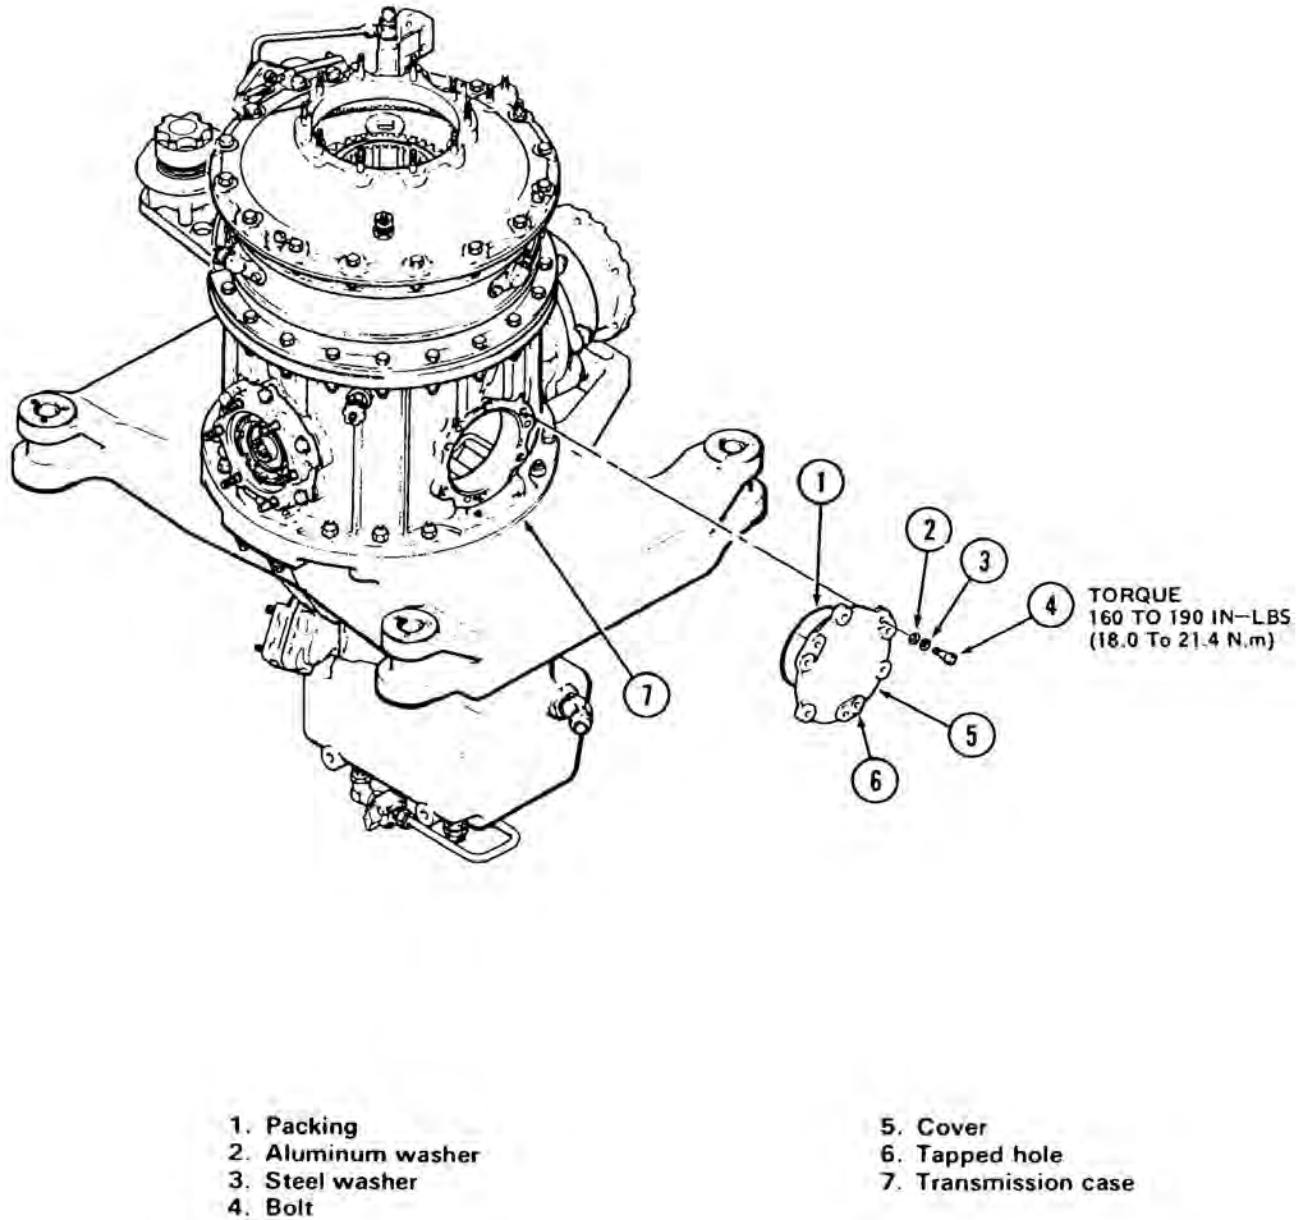

Figure 63-52. Quill Port Covers
- 63.8.1.2 Remove bolts (4, Figure 63-52).
- 63.8.2.1 Lubricate new packing (1, Figure 63-52) with transmission oil (Chapter 12).